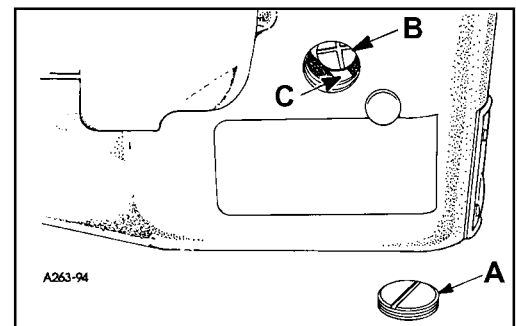

FIG. 12
When change in stitch length is required, remove large plug screw (A, Fig. 12). Loosen feed rocker driving link screw (B) in lever (C). Moving the feed rocker driving link up in the lever slot lengthens the stitch, moving it down, shortens the stitch. Retighten link screw (B) securely and replace plug screw (A).
**NOTE:** If plug screw (A) is replaced with a new plug screw, it should be sealed with a silicone seal.